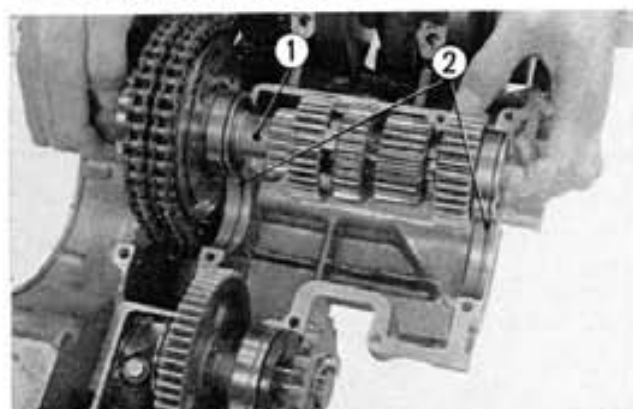

Fig. 3-84 ① Transmission mainshaft
2. Assemble the primary chain on the primary sprocket and install the sprocket on the main shaft. (Fig. 3-84)